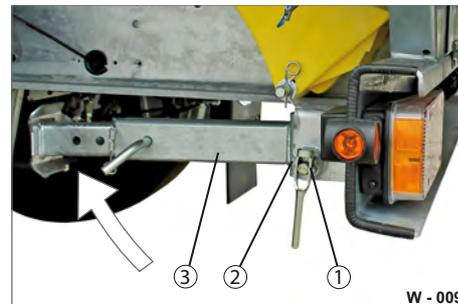

Fig. 9 Remove excess grease
- ▶ If necessary, remove excess grease at different points (Fig. 9/1, 2,) - environmental pollution!